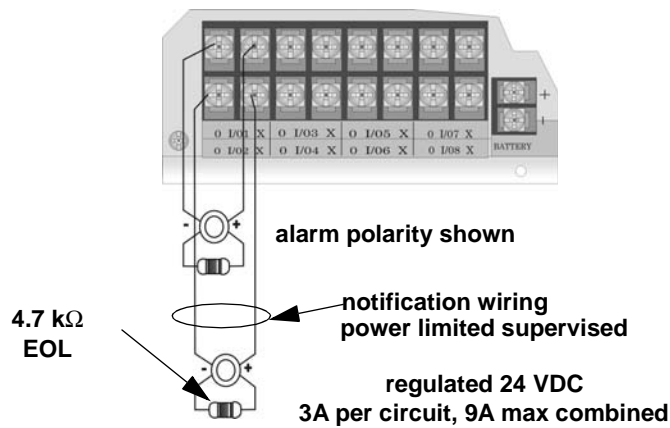

Figure 4-47 Class B Notification Appliance Circuit Wiring
1. Wire Class B Notification appliances as shown in Figure 4-47.